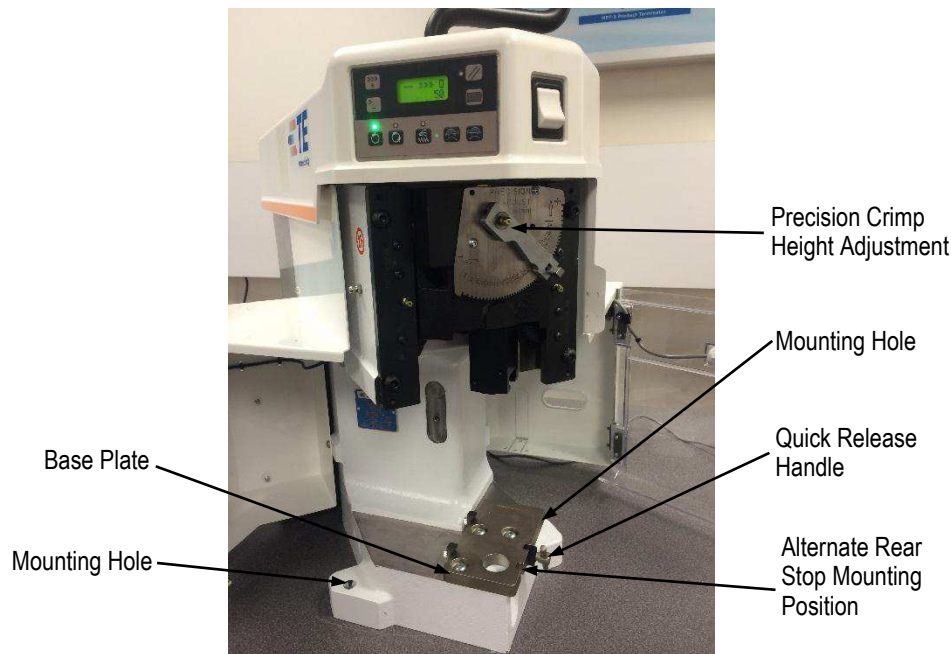

Figure 9
3. The **base plate** provides the mounting surface on which the applicator is installed. The quick-release latching feature permits fast, easy installation and removal of the applicator. See Figure 9.
4. The **crimp height adjustment group** uses an eccentric located in the ram linkage, along with detented stops in the mechanism to adjust the crimp height. Indexing the mechanism in either direction will change the crimp height in increments of approximately 0.01 mm [.0004 in.] per step. Refer to Figure 9 for the Precision Crimp Height Adjustment Mechanism.
Machines should be securely bolted to the bench using the machine mounting holes shown in Figure 9. Hardware is customer supplied. Machines should not extend beyond the front of the bench.
1. Loosen the quick-release T-handle (see Figure 9) and slide the applicator base clamp down.
When using Applicator 567200-2 (originally intended for use with AMP-O-LECTRIC Model “K” terminating machine), loosen the quick-release T-handle, slide down the applicator base clamp, and remove the rear stop located on the left side of the base plate. Install the rear stop (PN 354561-1), supplied with the air feed kit, at the alternate mounting position on the base plate. See Figure 9.